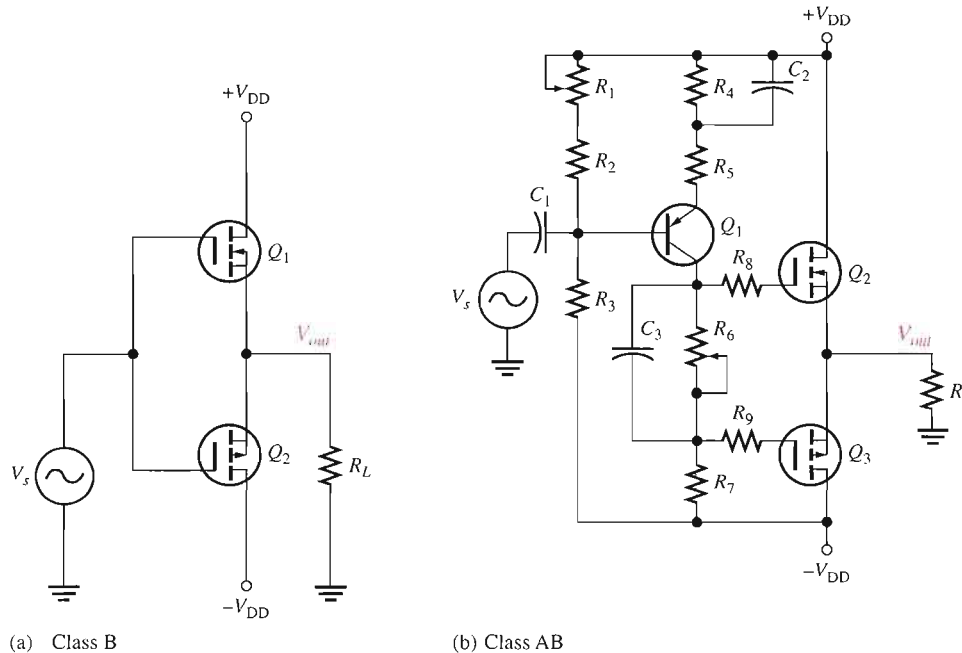

FIGURE 9–20
A darlington class AB push-pull amplifier is shown in Figure 9–19. Four diodes are required in the bias circuit to match the four base-emitter junctions of the two darlington pairs.
► **FIGURE 9–19**
A simplified class B amplifier using complementary symmetry E-MOSFETs and two-supply operation is shown in Figure 9–20(a). Recall that an E-MOSFET is normally off but can be turned on when the input exceeds the threshold voltage. For logic devices, the *on* voltage is typically between 1 V and 2 V; for standard devices the threshold is higher. When the signal exceeds the positive threshold voltage of Q_1 , it conducts; likewise, when the signal is below the negative threshold voltage of Q_2 , it conducts. Thus, the *n*-channel device conducts on the positive cycle; the *p*-channel device conducts on the negative cycle.
As in the case of the BJT push-pull amplifier, the transistor does not conduct just above zero signal voltage, which causes crossover distortion. If each transistor is biased just at the threshold voltage, the MOSFETs will operate in class AB, as shown in the circuit in Figure 9–20(b). This amplifier includes a BJT amplifier as a driver and other components to assure a reasonably linear output from an E-MOSFET push-pull stage. Of course, there are additional features to this basic design in commercial amplifiers.
The basic class AB push-pull amplifier shown in Figure 9–20(b) includes a common-emitter stage that amplifies the input signal and couples the signal to the gates of the push-pull stage, consisting of Q_2 and Q_3 . Notice that R_6 is bypassed with capacitor C_3 to allow identical ac signals to be applied to the push-pull stage. Potentiometer R_6 is used to develop the proper dc voltage to set the bias to the threshold voltages of Q_2 and Q_3 . It is adjusted to minimize crossover distortion. Potentiometer R_1 is adjusted to zero the output dc output voltage with no input signal.